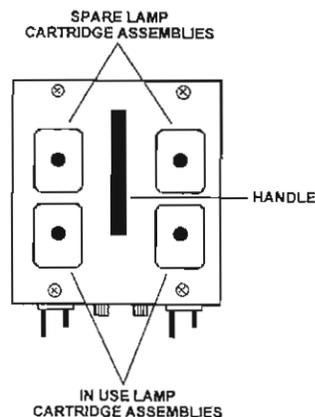

Figure 2-2. Lamp cartridge assemblies locations.
c. “REPLACE SPARE LAMP” indicators. A red indicator illuminates when the endoscopic instrument light is turned on and the applicable lamp in the spare lamp cartridge assembly (fig 2-2) is missing, burned out, or broken. The spare lamp cartridge assemblies are located on top of the endoscopic instrument light behind the in use lamp cartridge assemblies.